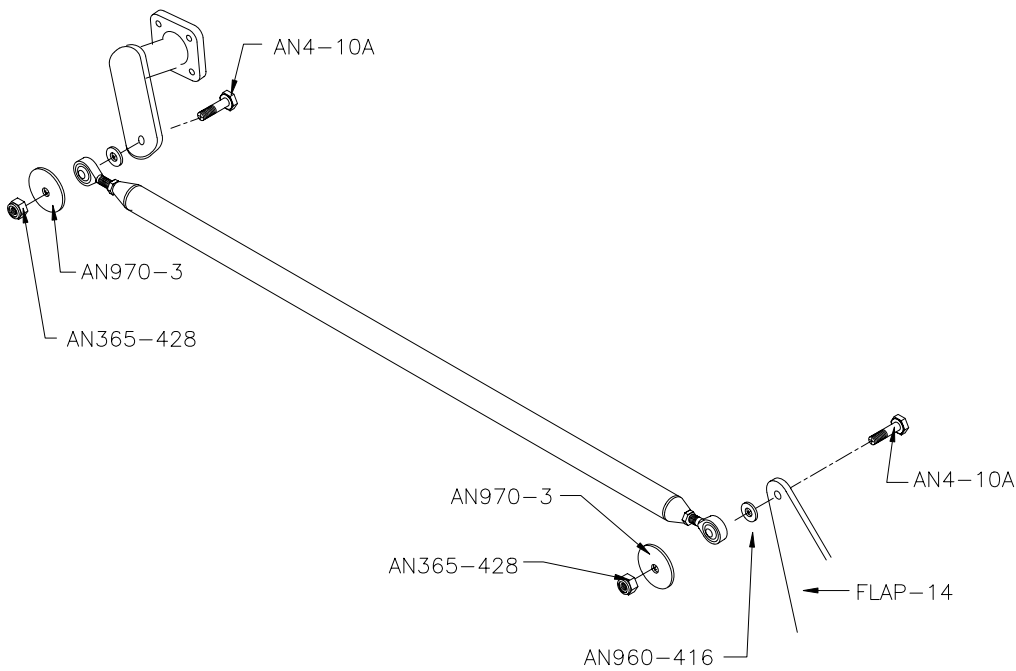

Figure 15.15.4
- 7) Bolt the forward pushrods to the control arms of the forward Torque Tubes and the top arm of the reversal Bellcrank. See figure 15.15.4 for details. **NOTE:** Tighten the bolts finger tight.